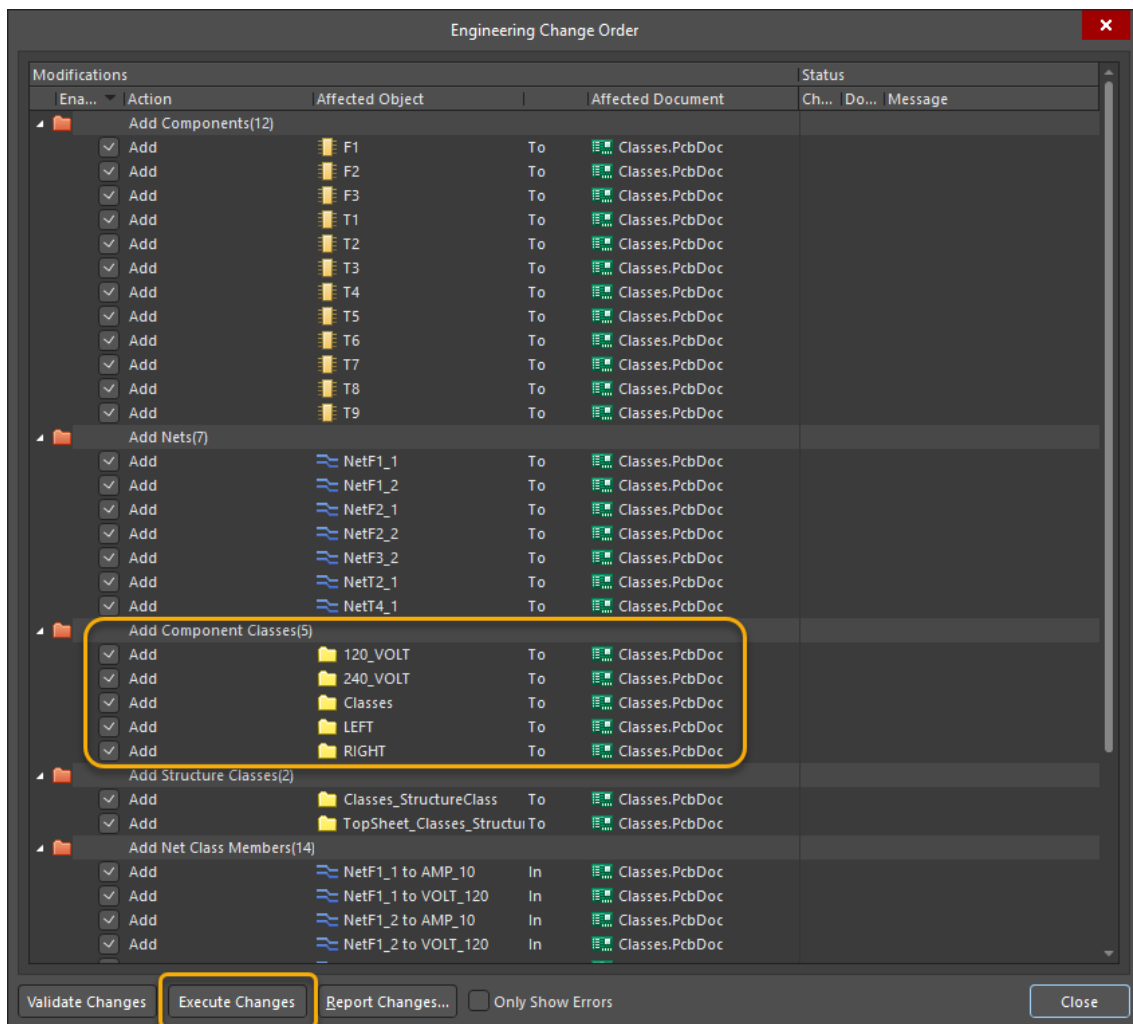

Figure 10. Engineering Change Order
46. When the *Engineering Change Order* dialog appears (see Figure 10), examine the items that will be added to the PCB. Note that the component classes are added for the components with the user parameter `ClassName`. Select the **Execute Changes** button to update the PCB document, then select **Close**.